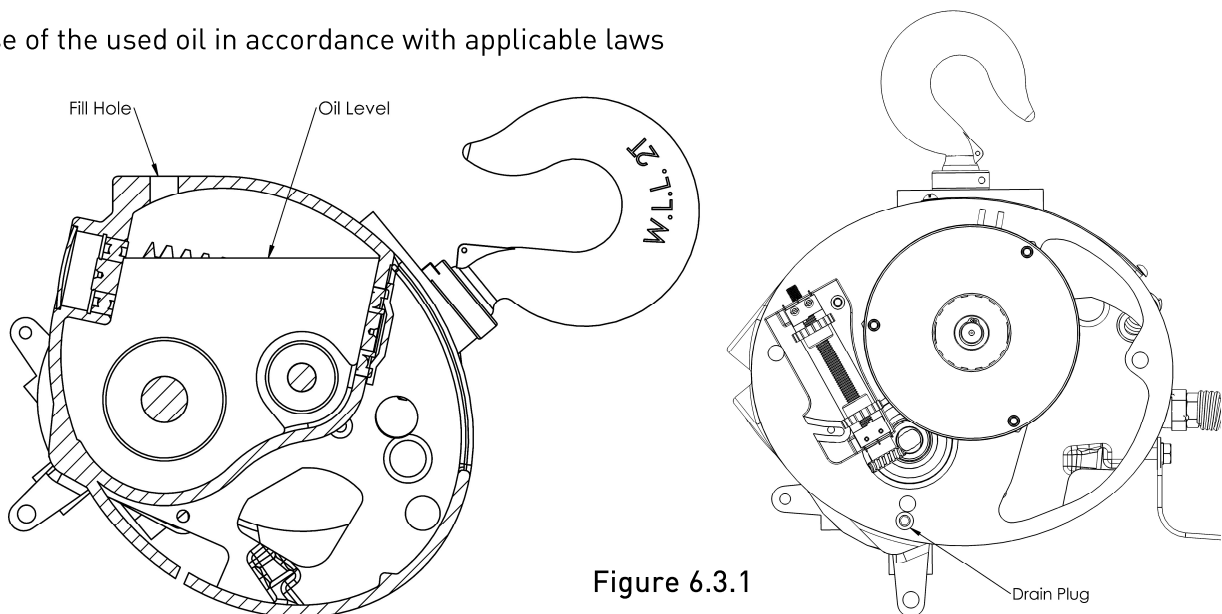

Figure 6.3.1
4. Place an empty container with a capacity over 1 liter under the drain plug (Figure 6.3.1). Unscrew the drain plug using a 3/16" hexagonal key.